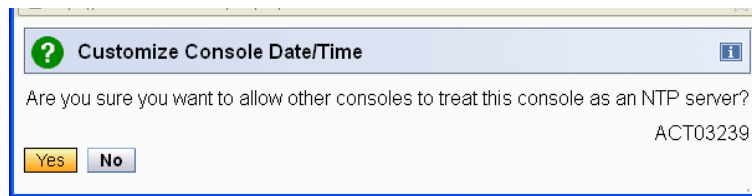

Figure 1-21 Message ACT03239 - Enable as time server confirmation
2. Selecting **OK** displays a confirmation window (Figure 1-21).